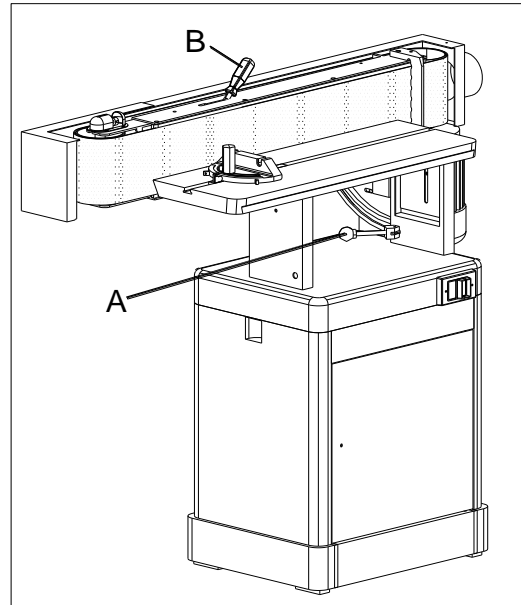

Fig: 4
1. SANDING TABLE CAN BE ADJUSTED 90° — 180° ,SEE FIG.4
2. ADJUST CLAMP HANDLE (B) AT DESIRED TO CHANGE NEW BELT. SEE FIG.4
3. LOOSEN ANGLE LOCK KNOB(A) TO SET AND TIGHTEN THE ANGLE.